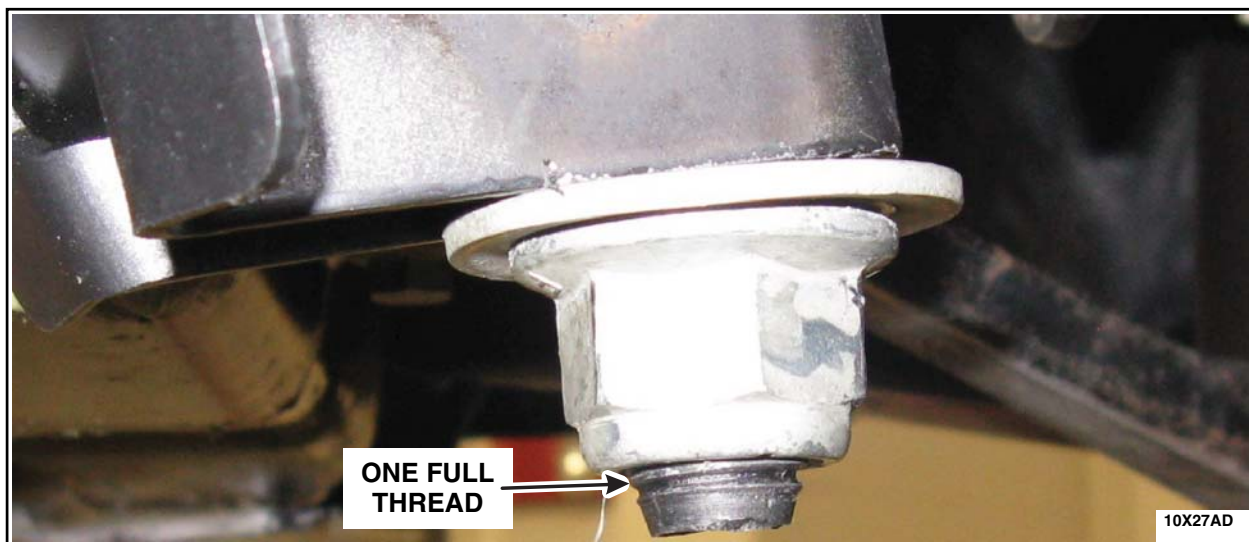

FIGURE 4
5. Starting with the nut that is to the outboard side of the vehicle, evenly tighten the U-bolt nuts. Tighten until one full thread is showing. See Figure 4.